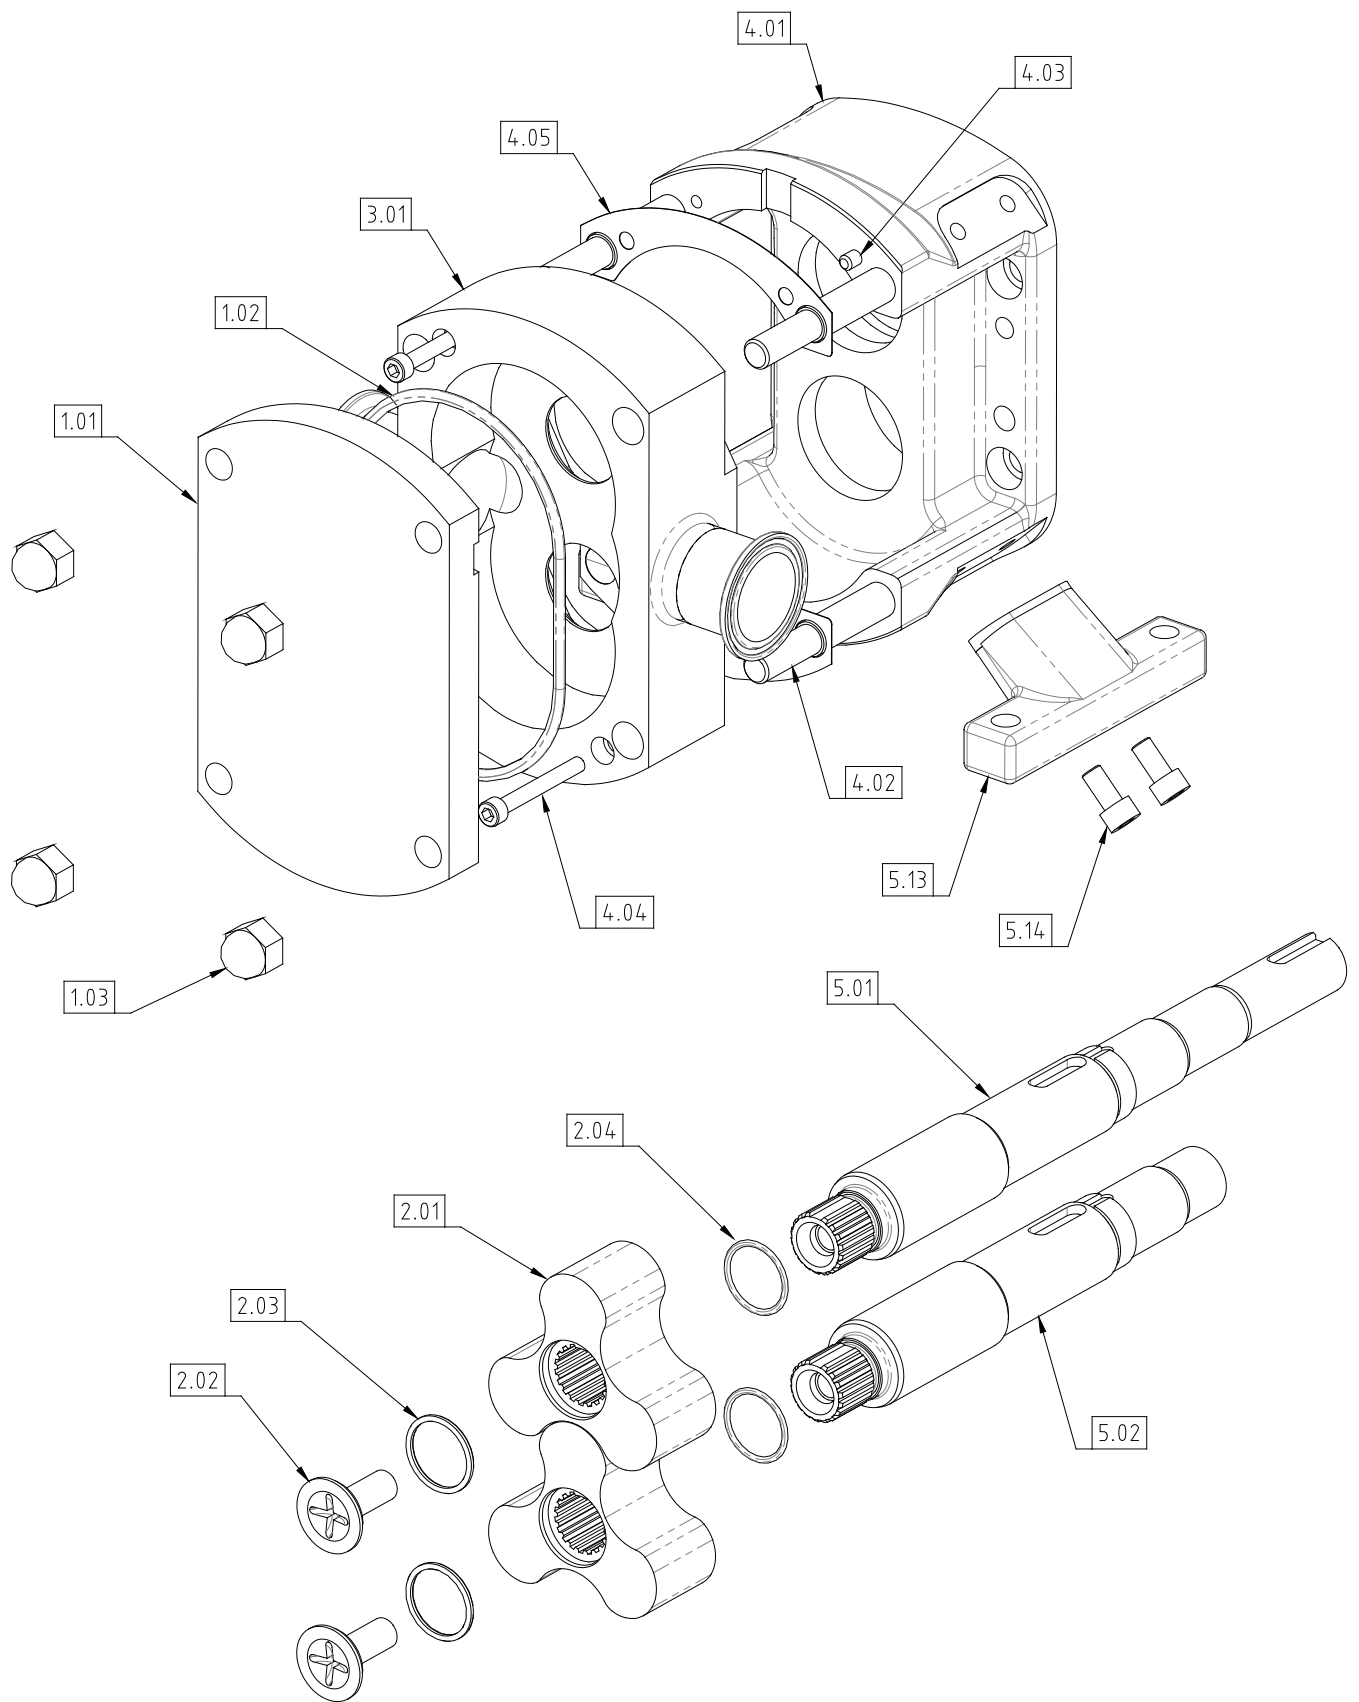

Fig 16 CP20 / CP30 Exploded View of Rotorcase and Rotor Assembly
- For CP20 Pump – refer to Fig 16.
(After completing section 4.1.1) - see Fig 16.